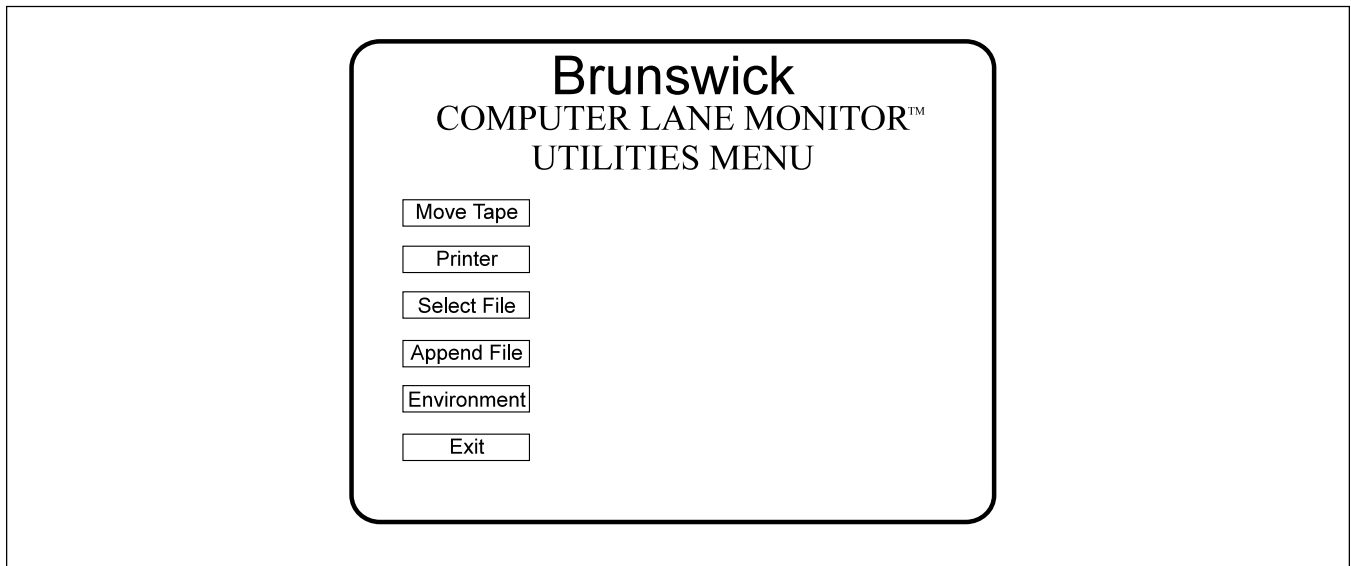

Figure 24 - Utilities Menu
2. When the “Utilities” option is selected, the screen displays the information shown in Figure 24. Use the arrow keys to move the highlighted cursor up or down and press the <enter> key to execute your selection.